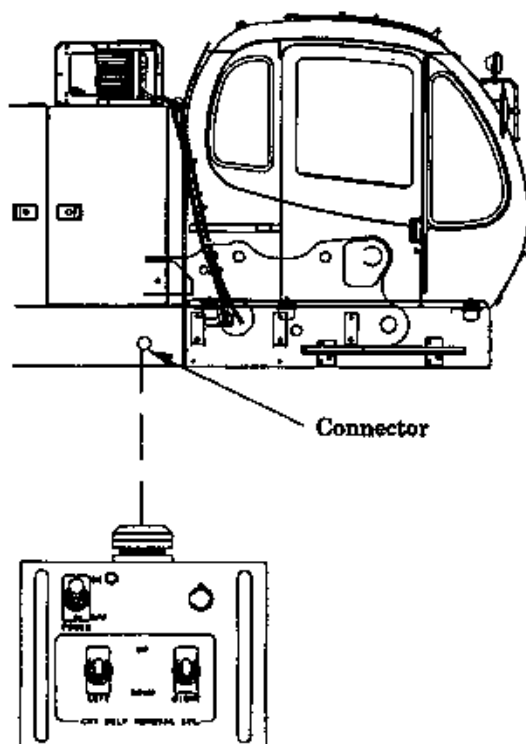

Fig 5-24
- (5) Connect the wiring connector of the swing flasher located on the counterweight.
- (6) Stop the engine. Then, disconnect the connector of the control box, and remove the box (Fig. 5-24).